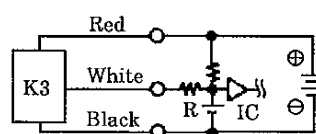

Fig. 4 An example of using capacitor type load together with current regulating resistor R. Comply with the following formula to figure out required R.
- Install some protective circuit as per illustrated in Fig. 4 when capacitor type load (Capacitor type) are to be used because those types apt to generate dash current at turning switch on.